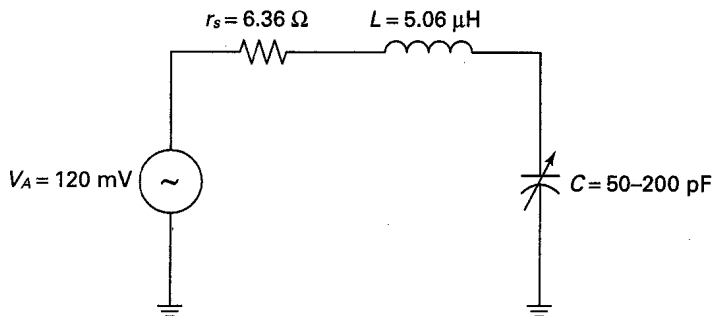

Fig. 1-21
- 1.29 Refer to Fig. 1-21. With  $C$  set to 200 pF, calculate: (a)  $f_0$ , (b)  $X_L$  and  $X_C$  at  $f_0$ , (c)  $Z_T$  at  $f_0$ , (d)  $I$  at  $f_0$ , (e)  $\Theta_Z$  at  $f_0$ , (f)  $Q$ , (g)  $V_L$  and  $V_C$  at  $f_0$ , (h) BW, (i)  $f_1$  and  $f_2$  respectively.
- 1.31** In Fig. 1-21, assume that  $C$  is set to 50 pF. Calculate: (a)  $Z_T$  at  $f_1$ , (b)  $I$  at  $f_1$ , (c)  $\Theta_Z$  at  $f_1$ , (d)  $Z_T$  at  $f_2$ , (e)  $I$  at  $f_2$ , (f)  $\Theta_Z$  at  $f_2$ .